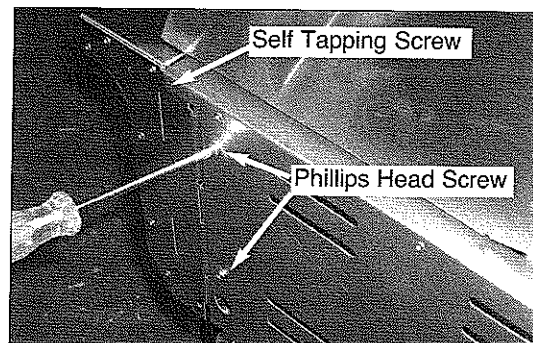

Fig 11
11. Remove the two phillips head screws and one self tapping screw holding the front face on the grill right side. (See Fig. 11)
23. Reinstall the two phillips head screws and one self tapping screw removed in step 12 to secure the front face on the left side of the grill. (See Fig. 11 on page 3)